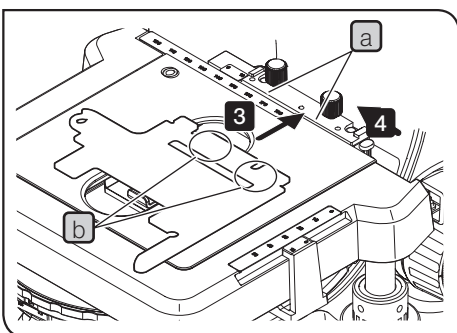

Fig.40
- 2 Loosen the specimen holder fixing knob **a** (2 pcs.) of the stage plate. (Fig.40 shows the procedures to attach the specimen holder for observing two slide glasses (U-HRDT-4).)